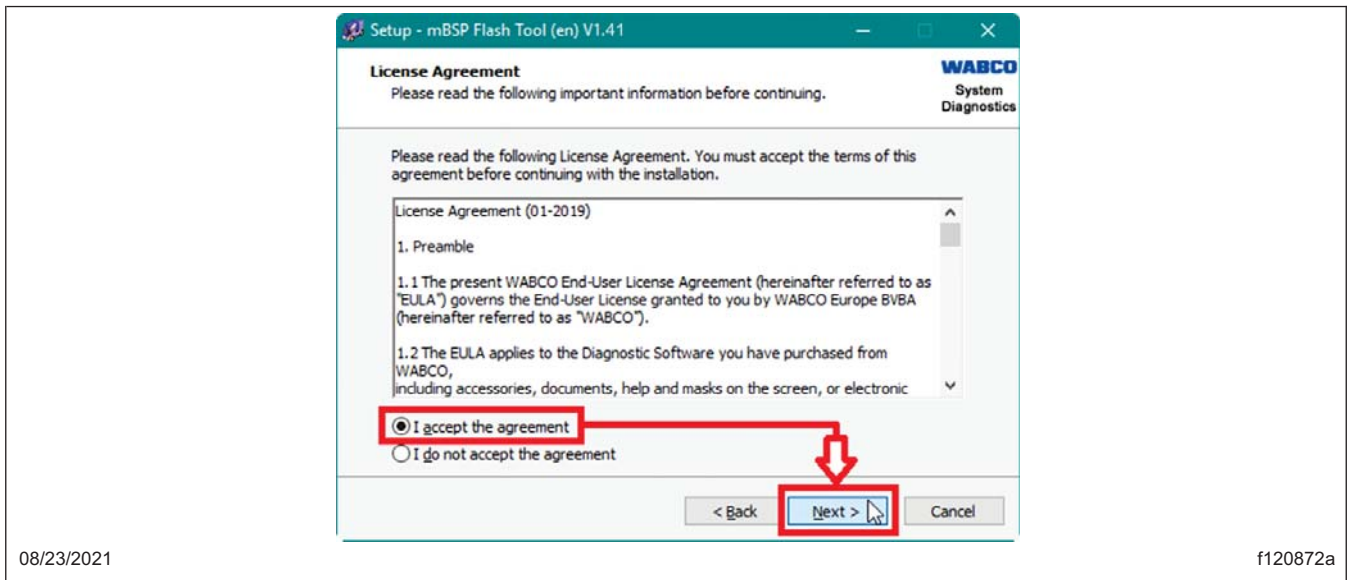

Fig. 12, License Agreement
7.6 At the 'License Agreement' window, choose 'I accept the agreement,' then select 'Next.' See Fig. 12.